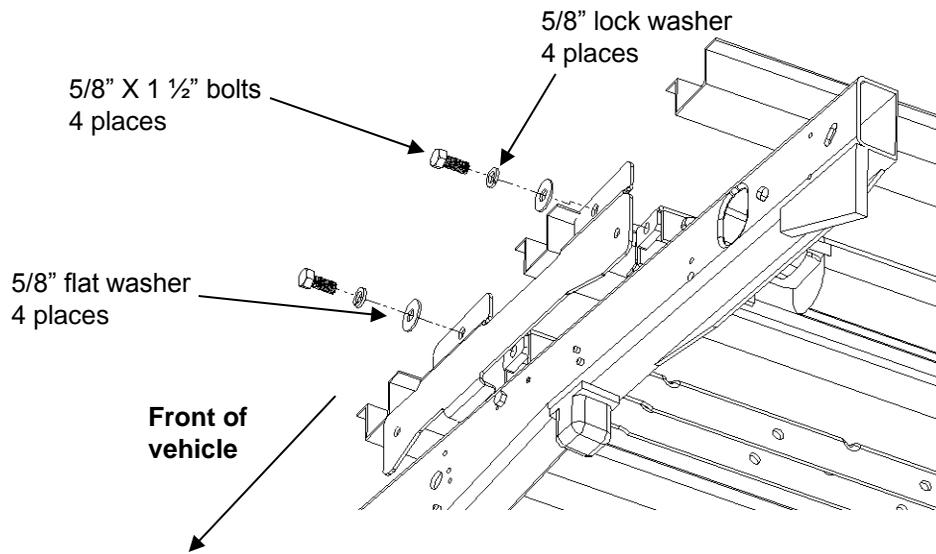

Figure 14
8. Loosely attach frame brackets to rails using 5/8" X 1 1/2" long bolts, flat washer & lock washers, (**Figure 14**).